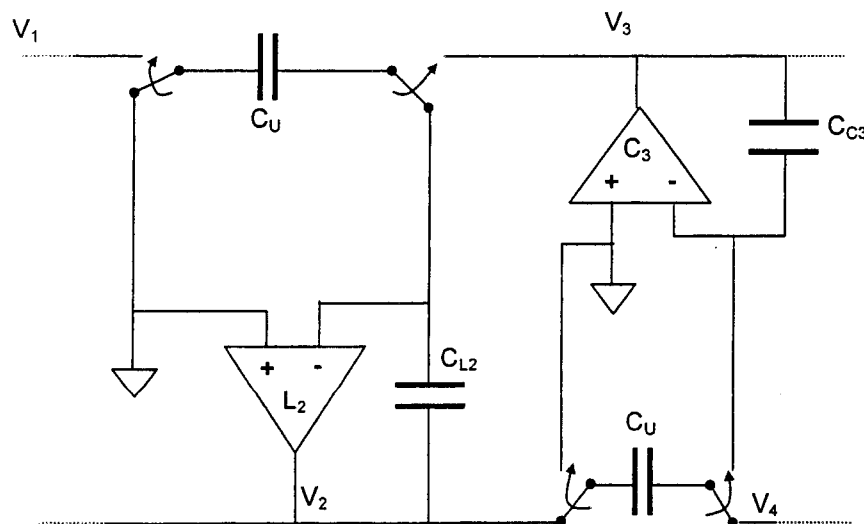

Figure 5.1
- (c) Figure 5.1 shows one section of a switched capacitor ladder filter. Based on this filter structure, design a 3rd-order Chebyshev low-pass filter with a cut-off frequency of 5 kHz and a 1.0 dB pass band ripple. Assume a clock frequency of 100 kHz. Passive component values for the LC prototype, normalised to 1 rad/s, are $C_1 = C_3 = 2.0236$, $L_2 = 0.994$. In your analysis assume all integrators to be lossless.